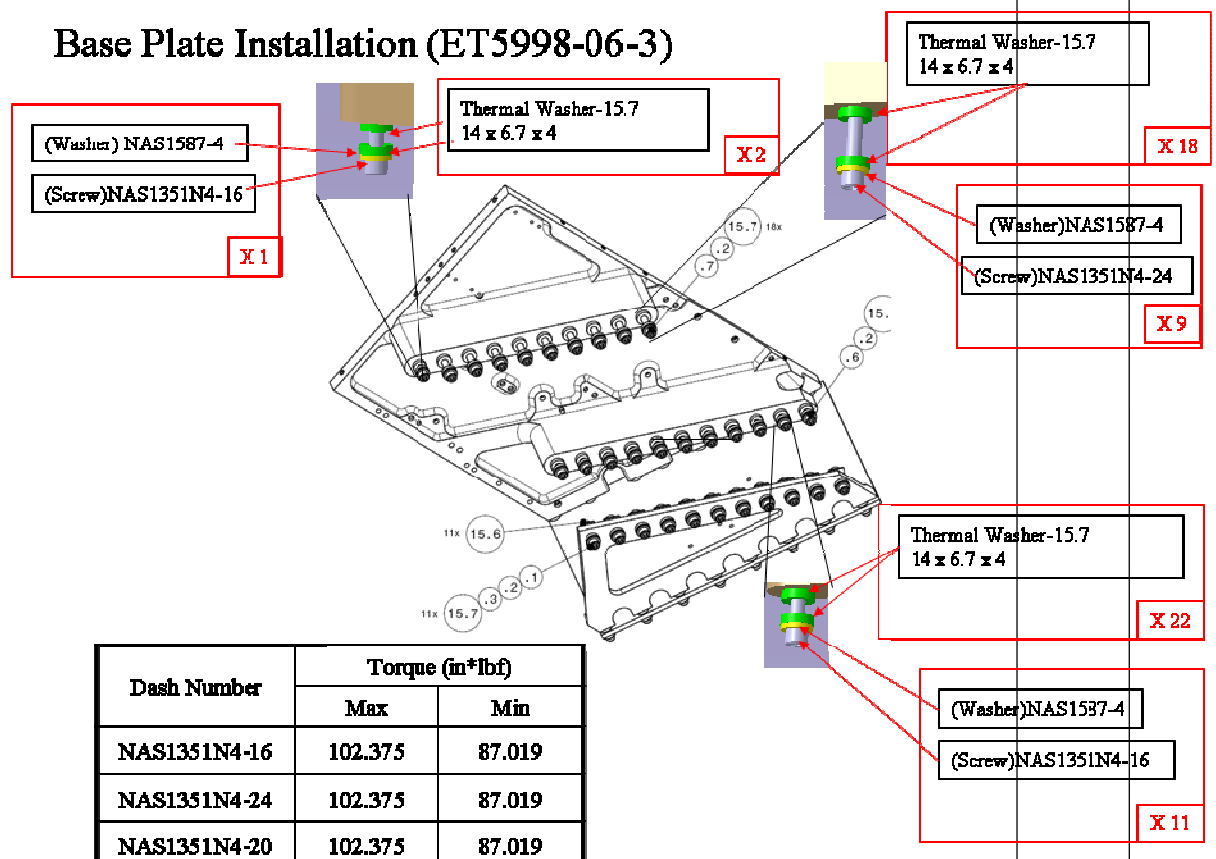

Figure 4: Connection base plate to USS simulator
21.7	Install the fasteners as per figure 4 and record fasteners lot number (write by hand)